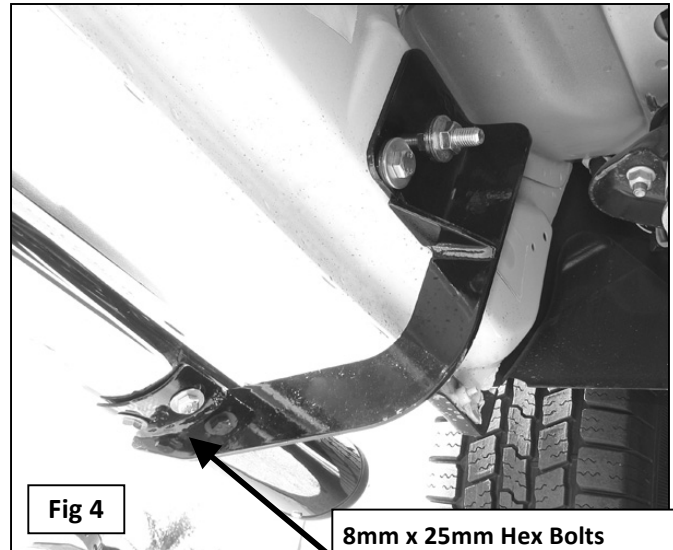

Fig 4
5. Once all of the brackets have been installed, with assistance, carefully position the driver Sidebar onto the Mounting Brackets. Partially attach the Sidebar to the cradles on the Mounting Brackets using the included (6) 8mm x 25mm Hex Head Bolts, (6) 8mm Lock Washers, and (6) 8mm Flat Washers, (**Figure 4**). Do not tighten hardware at this time.